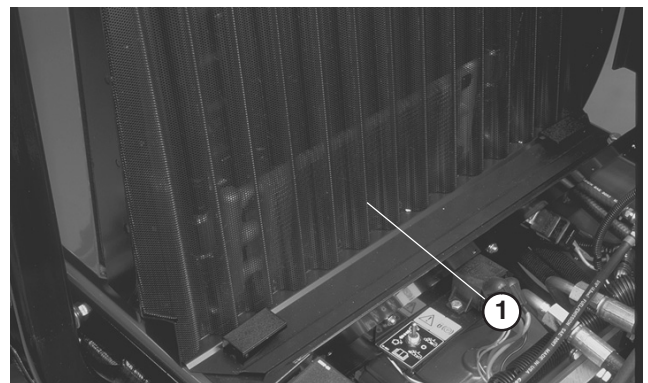

Figure 53
- Loosen clamps and pull up on screen to slide it out of mounting tracks (Fig. 53). Clean screen thoroughly with compressed air.